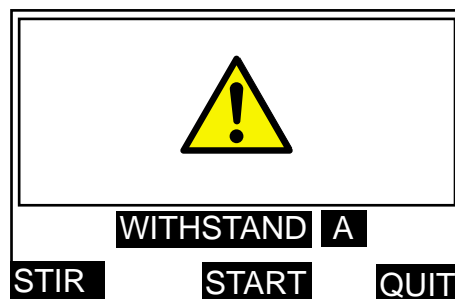

Figure 17. Withstand test option display screen.
4. Press SELECT to move to the test option display as shown in the example of figure 17